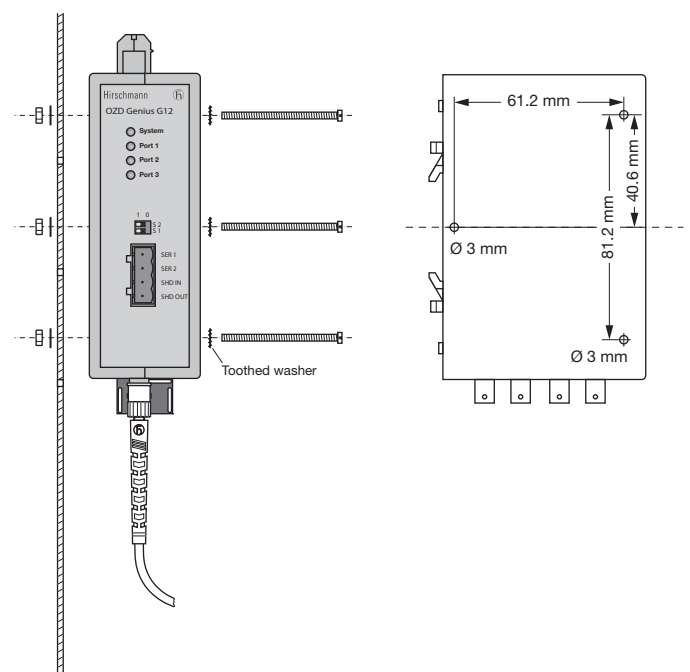

Fig. 7: Mounting repeater on mounting plate
- ▶ Make three holes in the mounting plate corresponding the drilling template shown in Fig. 7.